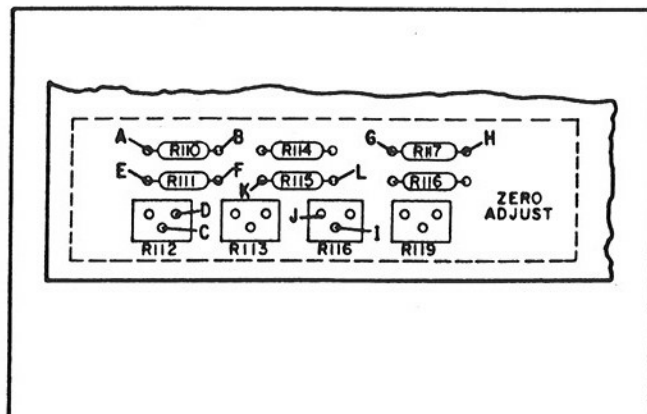

Figure 5-9. Zero Adjust Section of Main Circuit Board
- Connect decade resistance box between pads in zero adjust section of A1 main circuit board that are marked "A" and "B" in Figure 5-9. (These pads are for R110).
- Solder a jumper between pads in zero adjust section of A1 main circuit board that are marked "C" and "D" in Figure 5-9.
- Connect decade resistance box between pads marked "E" and "F" in Figure 5-9. (These pads are for resistor R111).
- c. Connect decade resistance box between pads in zero adjust section of A1 main circuit board that are marked "G" and "H" in Figure 5-9. (These pads are for R117.)
- Solder a jumper between pads in zero adjust section of A1 main circuit board that are marked "I" and "J" in Figure 5-9.
- Connect decade resistance box between pads marked "K" and "L" in Figure 5-9. (These pads are for R115.)